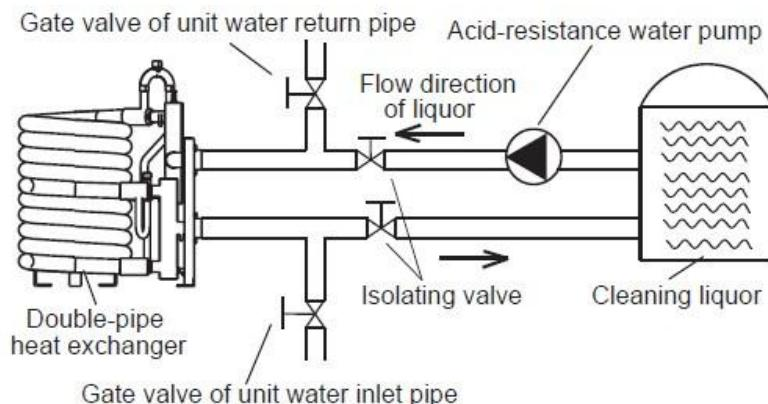

Fig.3-7 Cleaning system schematic diagram of double-pipe heat exchanger
2) Correctly connect the cleaning system as the above figure 3-7, make the cleaning liquor counter flush the double-pipe heat exchanger (opposite the general flow direction).